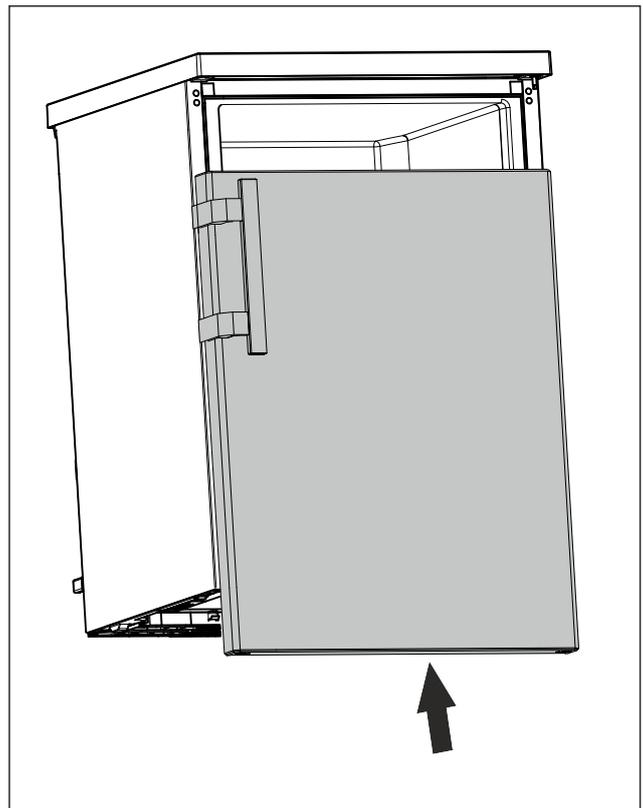

Fig. 16
- ▶ Slide the door onto the upper bolt when it is closed. (see Fig. 16)